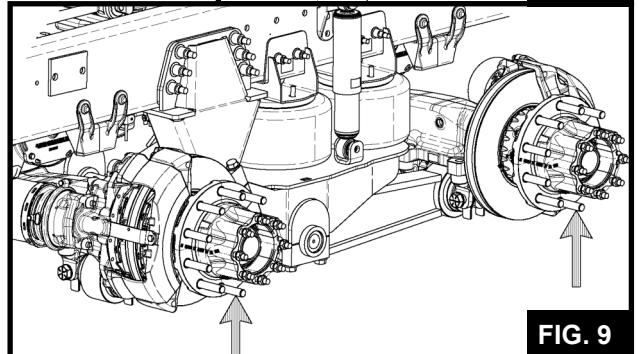

FIG. 9
- 6.5** Support the rear of the frame at this height and support the axles (wheel ends) such that the trailing arm is in the level position (**See FIG. 9**).